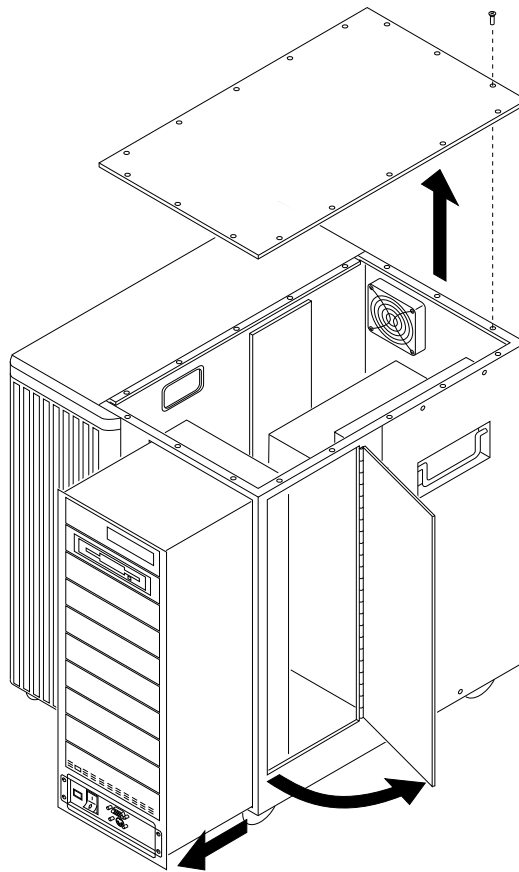

Figure A-3. Front View of MAP/100 with Doors and Desk side Panels Removed
6. Loosen the four 1/4-turn fasteners on the front of the peripheral bay and the seven 1/4-turn fasteners on the right side door as shown in Figure A-3.